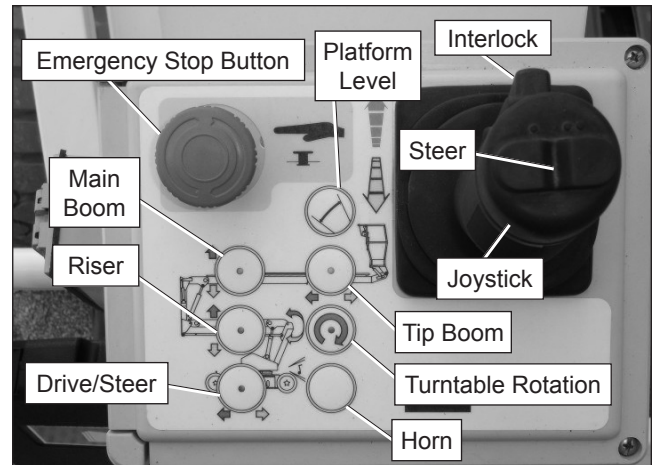

Figure 8.17 – Upper Controls
4. At the upper controls, pull the emergency stop button outward (refer to Figure 8.17).
Operate the horn switch (refer to Figure 8.17) to ensure that it sounds to warn personnel in the area.